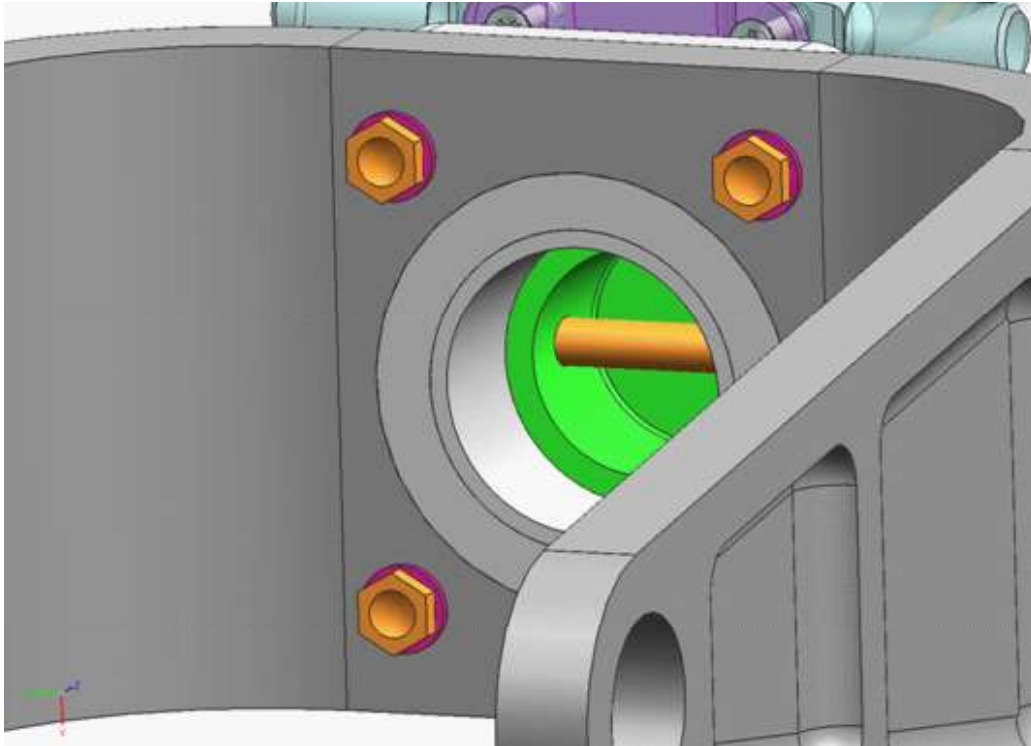

Figure 1-4 – Capturing Bolt Installed through the Hole in the New Tube Cap
- A. Looking up through the bottom of the nose gear, ensure that the capturing bolt passes through the capturing bolt hole in the new tube cap. See **Figure 1-4**.